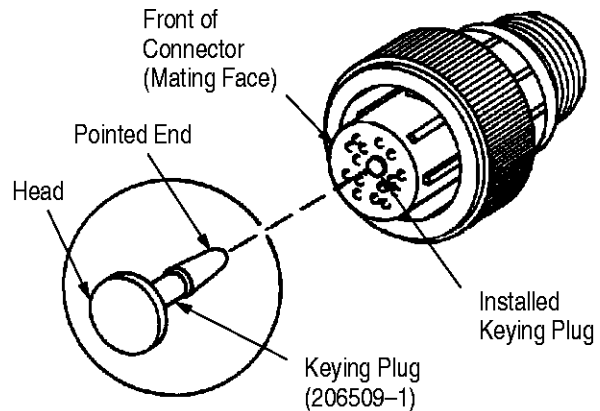

Figure 11
**11.2. Keying Series 2 Connectors** (Figure 11)